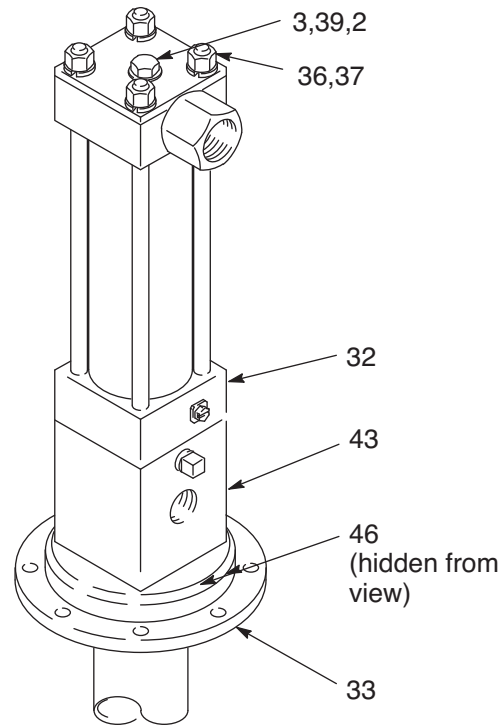

FIG. 8
1. Place the adapter (43) in a vise. Remove the four capscrews (46) and the base (33). Pull the bottom cap (32) off the adapter. See FIG. 8. If needed, replace the seals as described in Repair on page 12.
2. Remove the capscrew (3), nuts (36), and lockwashers (37) on top of the reciprocator. (FIG. 8)